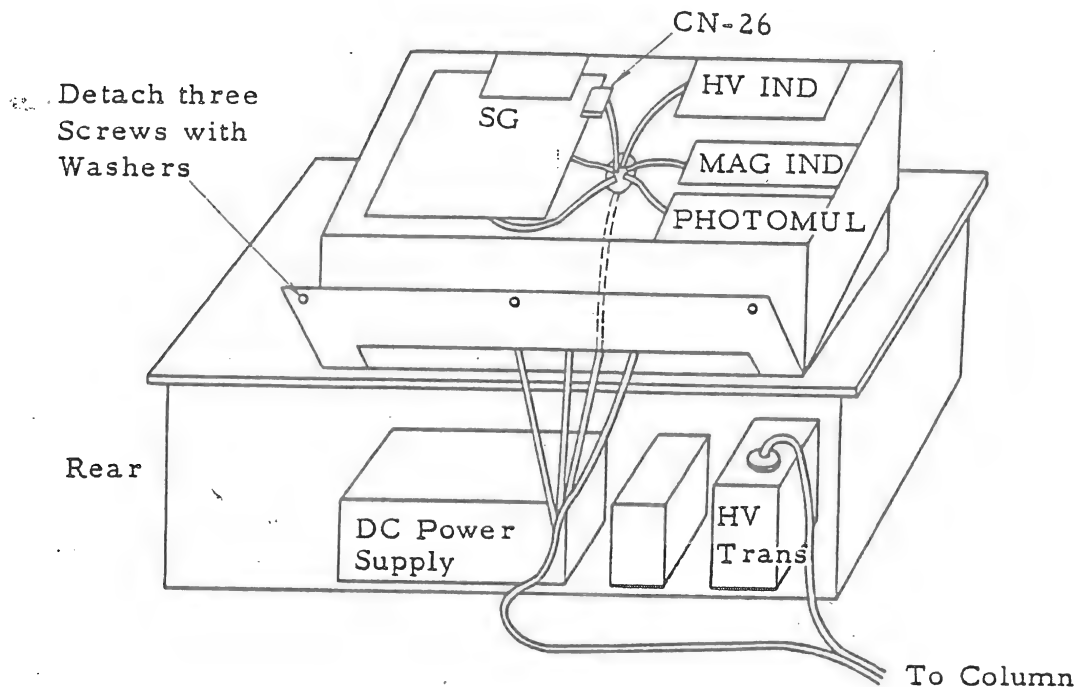

Fig. 3-5 Top View of Display Unit
- (2) Mount the HV cable to the HV transformer inside the table. Fix the cables to the column by the fixture mounted on the rear cover when the assembly work is finished.
- (3) Connection of Detector Cords (See Fig. 3-5.)
Bind the detector cords as shown in Fig. 3-5 so that they do not touch the photomultiplier HV unit.